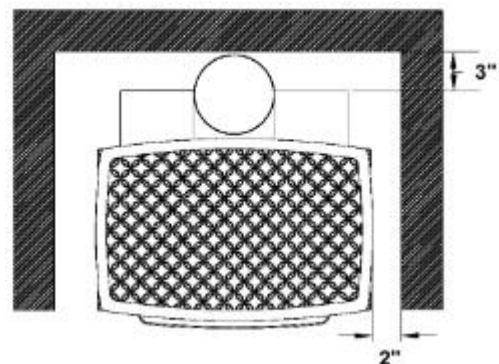

Figure 5 - Minimum Wall Clearances Horizontal Vent
- Due to high surface temperatures, locate the unit out of traffic areas and away from furniture and draperies. Do not place clothing and other flammable material on or near the heater. When positioning the unit always maintain adequate clearances around air openings into the combustion chamber and allow for adequate ventilation. Minimum clearances to combustibles must be maintained as shown in Figures 5 - 8.